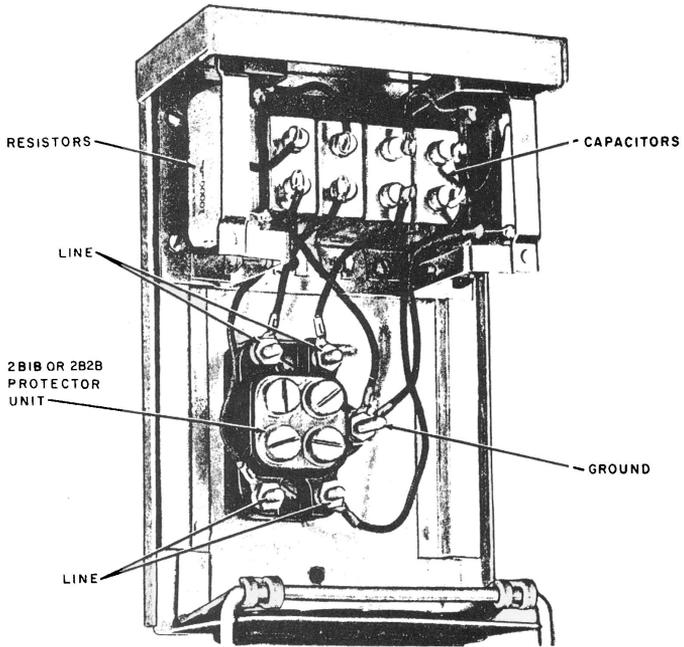
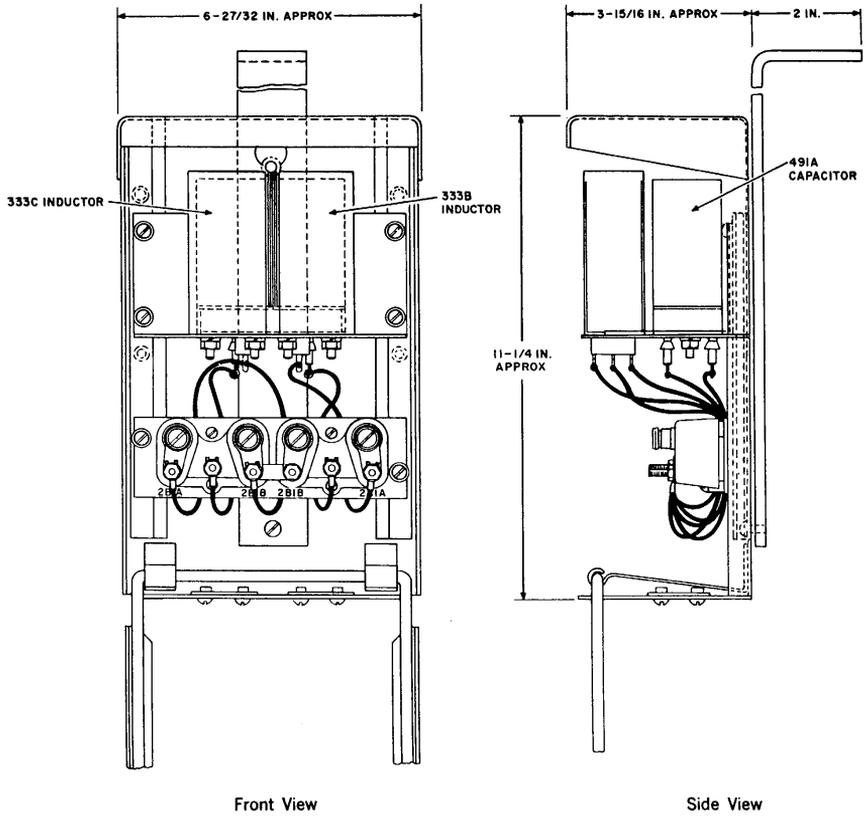

Fig. 1—Inside of 104B Protector
Fig. 2 — 108C Protector
2.01 The 104B protector (Fig. 1) and 108-type protectors (Fig. 2) are designed to limit the voltages that may be induced in C rural wire telephone circuits as a result of exposure to nearby power circuits. By providing balanced drainage paths from the two sides of the telephone circuit to ground, the protectors reduce the induced voltages to safe values without interfering with the normal operation of the circuit. The voltage induced in the telephone circuit depends principally on the voltage of the power circuit to ground, the distance between the telephone wires and the power wires, and certain characteristics of the telephone circuit. Each protector will serve two telephone circuits.